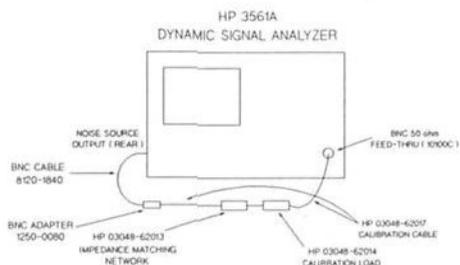

FIGURE 3-3. SETUP FOR REFERENCE MEASUREMENT WITH HP 3561A
1. Connect the equipment as shown in Figure 3-3.